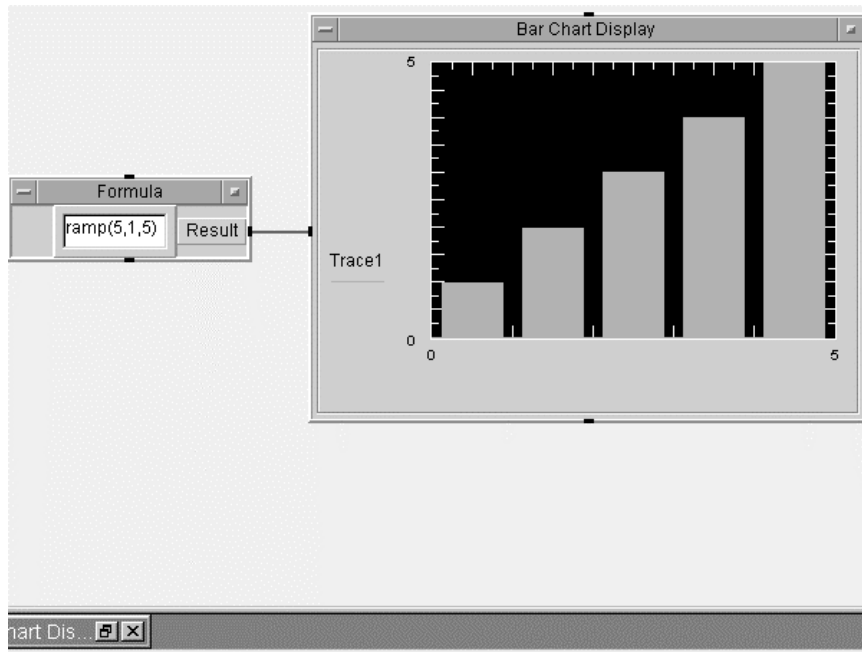

Figure 11.1. Displaying data on a BarChart
9. Run this program. It should look like Figure 11.1.